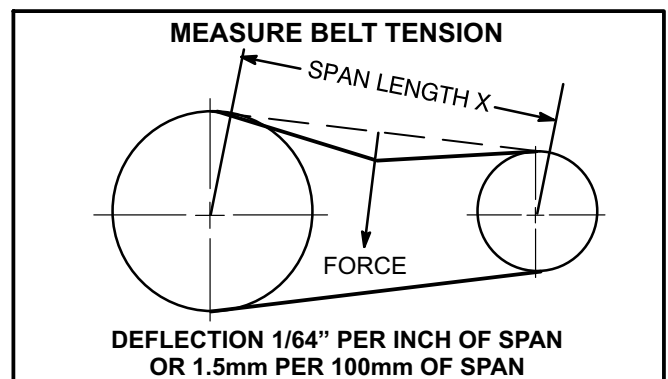

FIGURE 19
- 1- Measure span length X. See figure 19.
- 2- Apply perpendicular force to center of span (X) with enough pressure to deflect belt 1/64" for every inch of span length or 1.5mm per 100mm of span length.